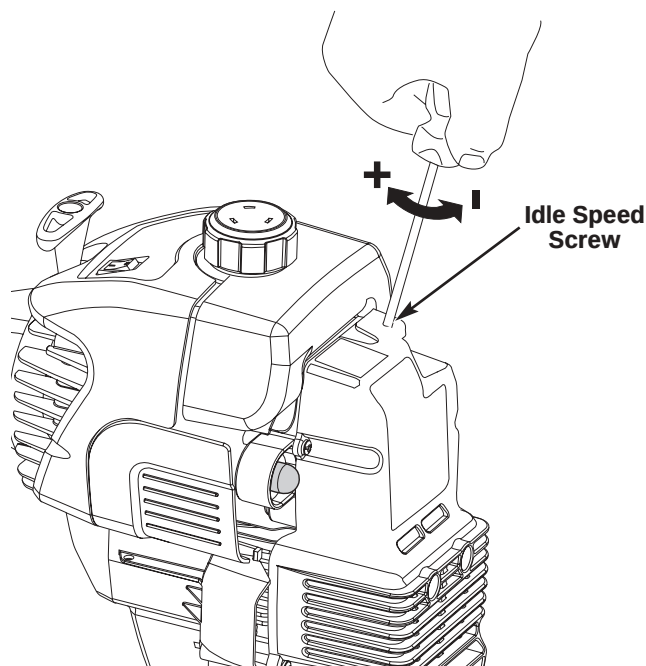

Fig. 39
The idle speed of the engine is adjustable through the air filter/muffler cover (Fig. 39).
2. Release the throttle trigger and let the engine idle. If the engine stops, insert a small phillips screwdriver into the hole in the air filter/muffler cover (Fig. 39). Turn the idle speed screw in, **clockwise**, 1/8 of a turn at a time (as needed) until the engine idles smoothly.